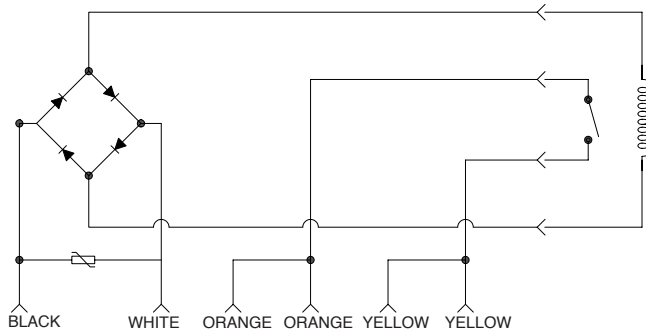

FIGURE 6-13
2. Connect positive from the control panel to either the black or white lead wire. See Figure 6-13.